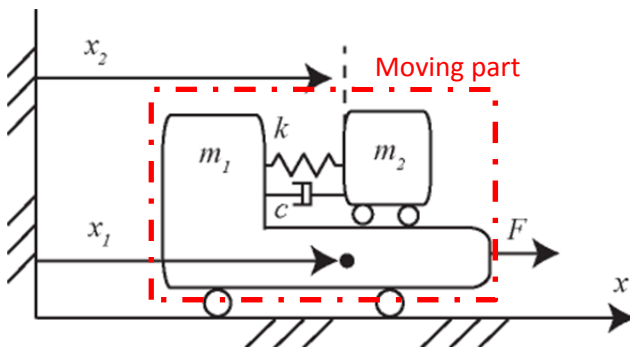

Fig. 3: A lumped mass model of a positioning system.
3. A positioning system using an electromagnetic actuator (e.g. Lorentz or reluctance actuator) can be modeled as a lumped mass model in Fig.3. Mass m_1 and m_2 connected by spring constant k and damping coefficient c represent the dynamics of the moving part. The values of these parameters are given in Table1.